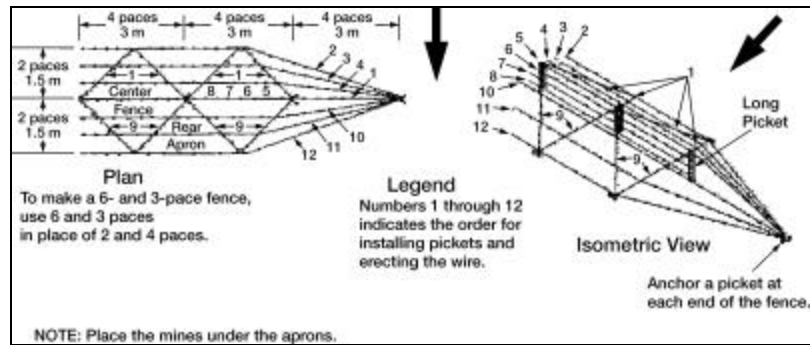

**Figure 052-195-3066-1. Double-Apron Fence**
- (1) The fence centerline is laid.
- (2) The long pickets are spaced at 3-meter (4-pace) intervals.
- (3) The anchor pickets are spaced at 1.5-meter (2-pace) intervals each way from the centerline and midway between the long pickets.
- (4) All 12 wires are installed. Ensure work is done from the enemy side to the friendly side (figure 052-195-3066-1).